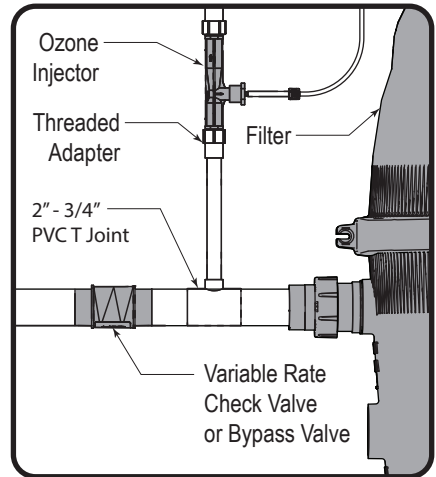

Figure 4. Plumbing the Ozone Injector
9. Install the first PVC T joint on the return line directly after the filter. See "Figure 4. Plumbing the Ozone Injector".